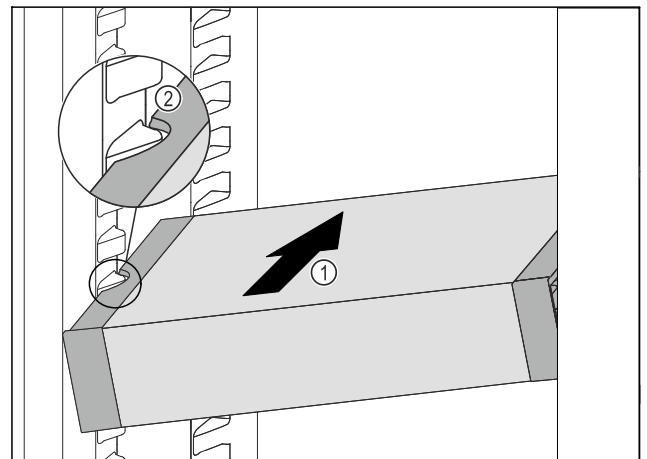

Fig. 114
- ▶ Insert the VarioSafe into the fridge section at an angle Fig. 114 (1) until the recesses in the side Fig. 114 (2) of the VarioSafe are at the level of the support rib in the fridge section.